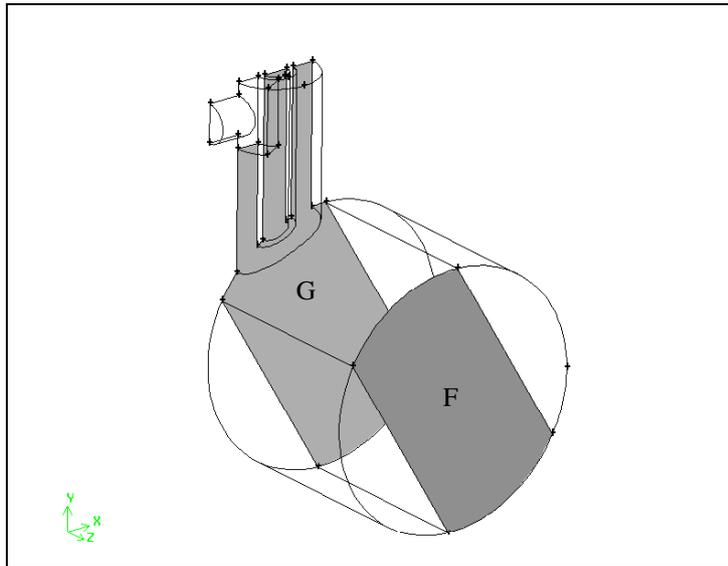

Figure 7-39: Faces to be modified
1. Set the meshing scheme to be Submap for the faces marked F and G in Figure 7-39.
- Select the faces marked F and G in Figure 7-39 in the graphics window.